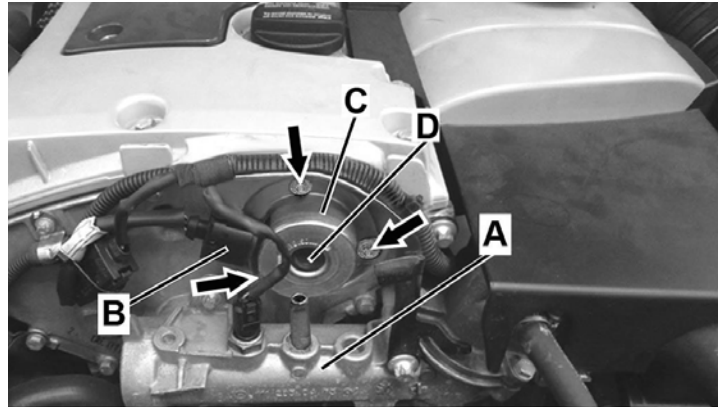

Figure 1
2. Separate engine thermostat housing (A, Figure 1) from engine to allow clearance for removal of camshaft solenoid; refer to WIS: AR20.10-P-2710A.
3. Disconnect camshaft solenoid connector (B, Figure 1) from camshaft solenoid (C).
4. Remove 3 bolts (arrows, Figure 1) securing camshaft solenoid (C) to engine then remove camshaft solenoid (C).
5. Install new stop plug (D) into new camshaft solenoid (C).
6. Apply sealing material to new camshaft solenoid (C, Figure 1) then install in reverse order (tighten bolts to 8 Nm).
7. Reinstall thermostat housing (A, Figure 1) in reverse order, refer to WIS: AR20.10-P-2710A